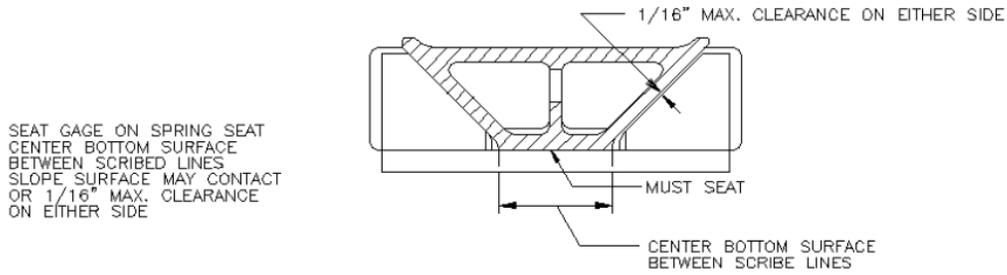

Fig. 16
2. Apply gage No. 51436 to bolster spring seat with gage centered approximately between two scribed lines. Gage sloped surface may contact or 1/16" max. clearance on either side see Figure 16.